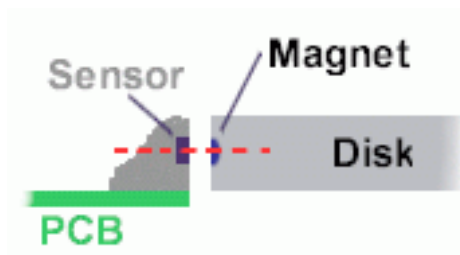

Figure 5 Ensure correct alignment of magnet disk and sensor.
- Take care that the magnets in the disk are approximately in the same height as the sensor, see figure 5 on the next page.